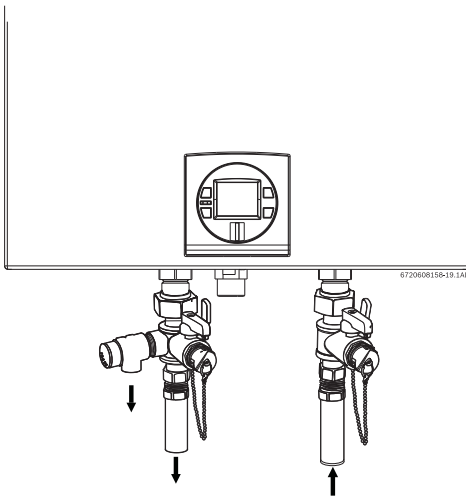

Fig. 32 Plumbing Connections (with shutoff valves) and Pressure Relief Valve
- ▶ Full port shutoff valves should be installed on both the cold water supply and hot water outlet lines to facilitate servicing the heater (see Fig. 32).
The location of the PRV must be readily accessible for servicing or replacement, and be mounted as close to the water heater as possible. See Fig. 32. To install the PRV, a suitable fitting connected to an extension on a "T" fitting can be sweated to the hot water line. Support all piping.